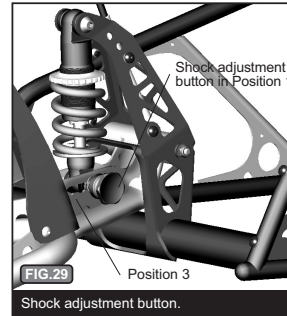

FIG. 29
**B)** Fully depress the shock adjustment button on the right side, Fig. 29.